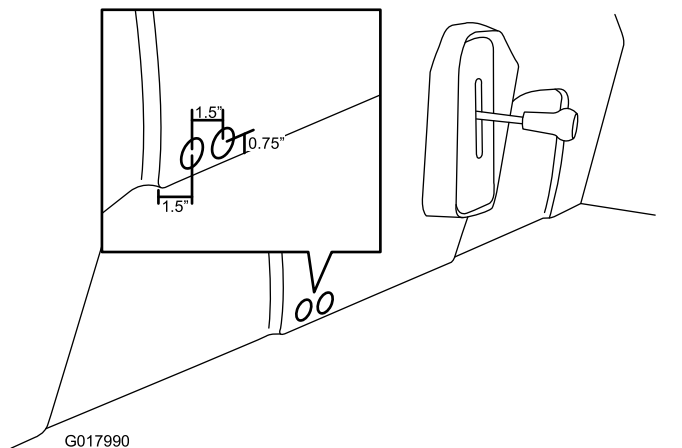

Figure 25
1. Mark and drill 2 holes in the seatbase using a hole saw (1 inch) as shown in Figure 25.